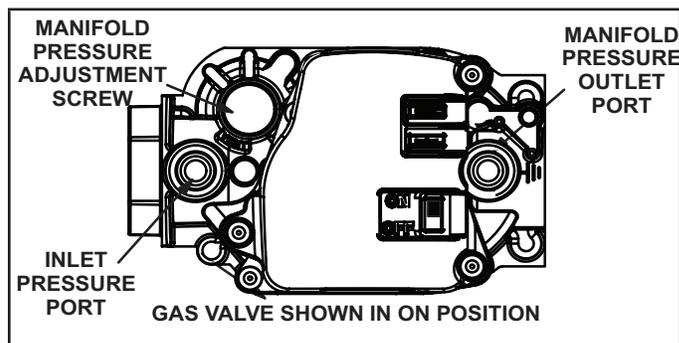

FIGURE 61
#### Gas Valve Operation (“FIGURE 61”)
- 6 - Move gas valve switch to OFF. See “FIGURE 61”.
- 8 - Move gas valve switch to ON. See “FIGURE 61”
When testing supply gas pressure, use the 1/8” N.P.T. plugged tap or pressure post located on the gas valve to facilitate test gauge connection. See “FIGURE 61”. Check gas line pressure with unit firing at maximum rate. Low pressure may result in erratic operation or underfire. High pressure can result in permanent damage to gas valve or overfire.